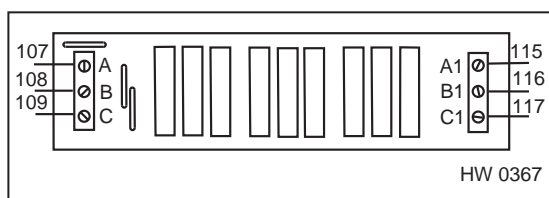

Fig. 4.29 - VDR/Resistor Board (L45SR, L75SR)
* Later models have Phase Monitoring / Phase Failure PCB. Test as per Fig. 4.29)